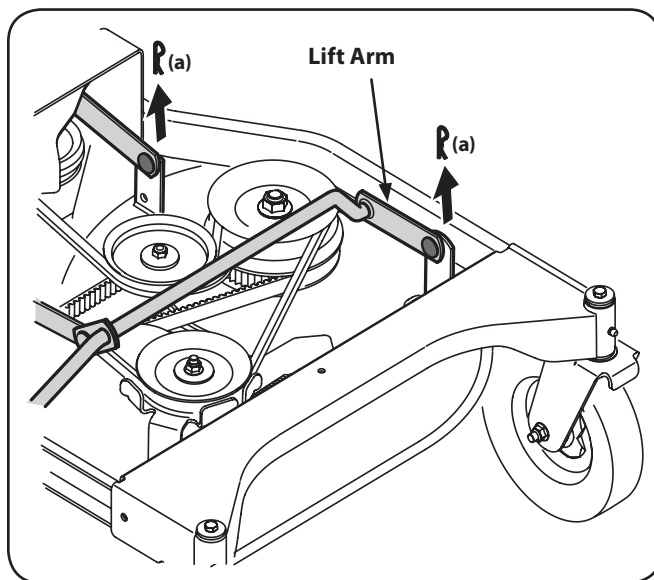

Figure 7-3
9. Carefully remove the front deck supports from the deck lift arms. See Figure 7-3.